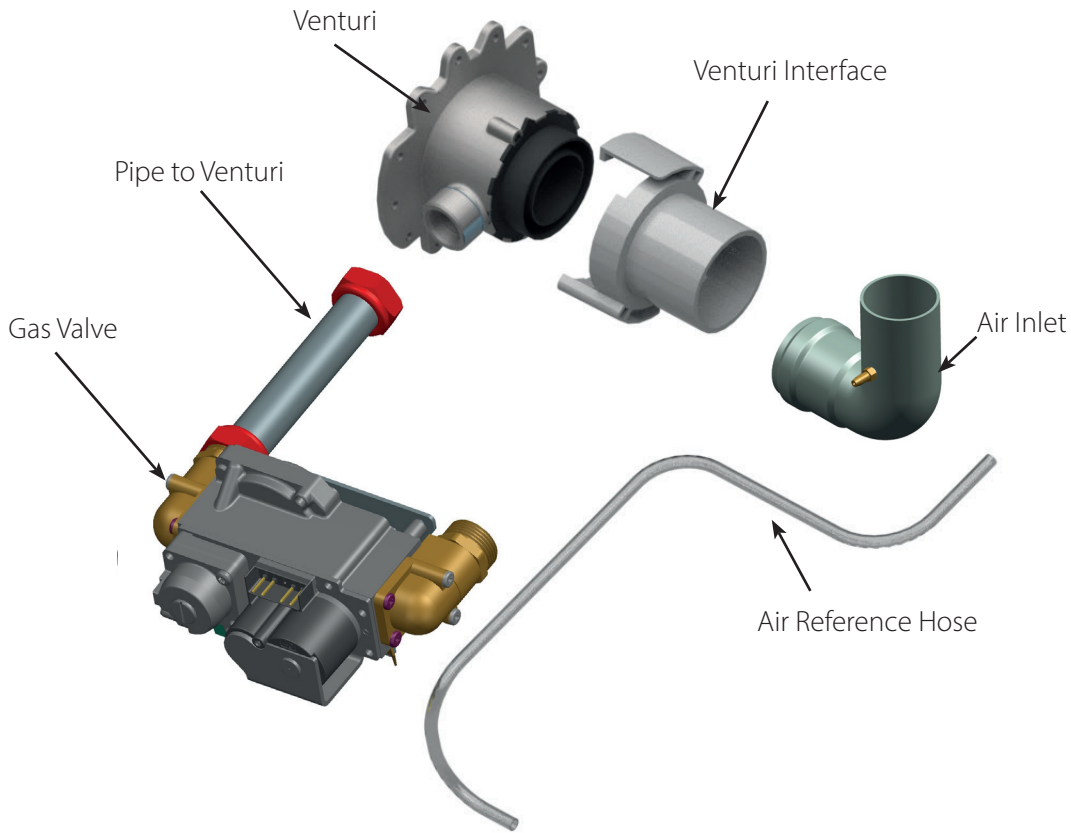

Fig. 25 - Gas Valve / Venturi Assembly - EXALT Heat Only 110
- Prior to start up, ensure the unit is set to fire propane. Check the rating label for the type of fuel. Check the venturi for propane conversion label. If there is a conflict or doubt on the burner configuration, remove the venturi and check for proper propane gas orifice sizing on venturi labeling. Refer to Tables 1 and 3 below. See Fig. 25, Fig. 26 & Fig. 27 for venturi location. Refer to Propane Conversion Instructions for proper removal and replacement of the venturi.